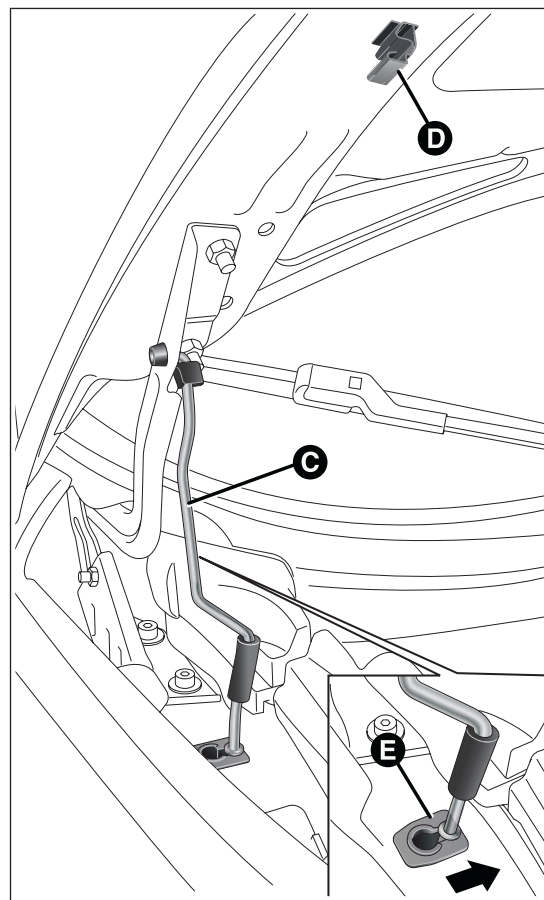

fig. 67
- lift the bonnet and, at the same time, release the supporting rod C fig. 67 from its catch D, then insert the end of the rod into housing E in the bonnet (large hole) and push to safety position (small hole), as shown in the figure.
- keep the bonnet raised with one hand and remove rod C fig. 67 from housing D with the other, inverting the opening motion, then fit it back into its catch;